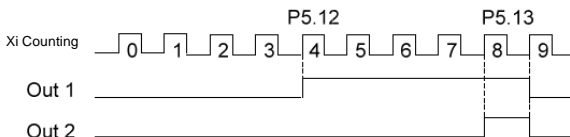

Fig.6-18 Schematic diagram for the preset and reaching counting value reference
2. The terminal Yi is set to “10: Preset counting value action”, and the action sequence is shown as Out1 in Fig.6-18. Effective level will be output when the counting value is between the values of P5.12 and P5.13.
The terminal Yi is set to “11: Reaching counting value action”, and the action sequence is shown as Out2 in Fig.6-18. Effective level will be output and kept till the counting value changes when the counting value reaches the value of P5.13.